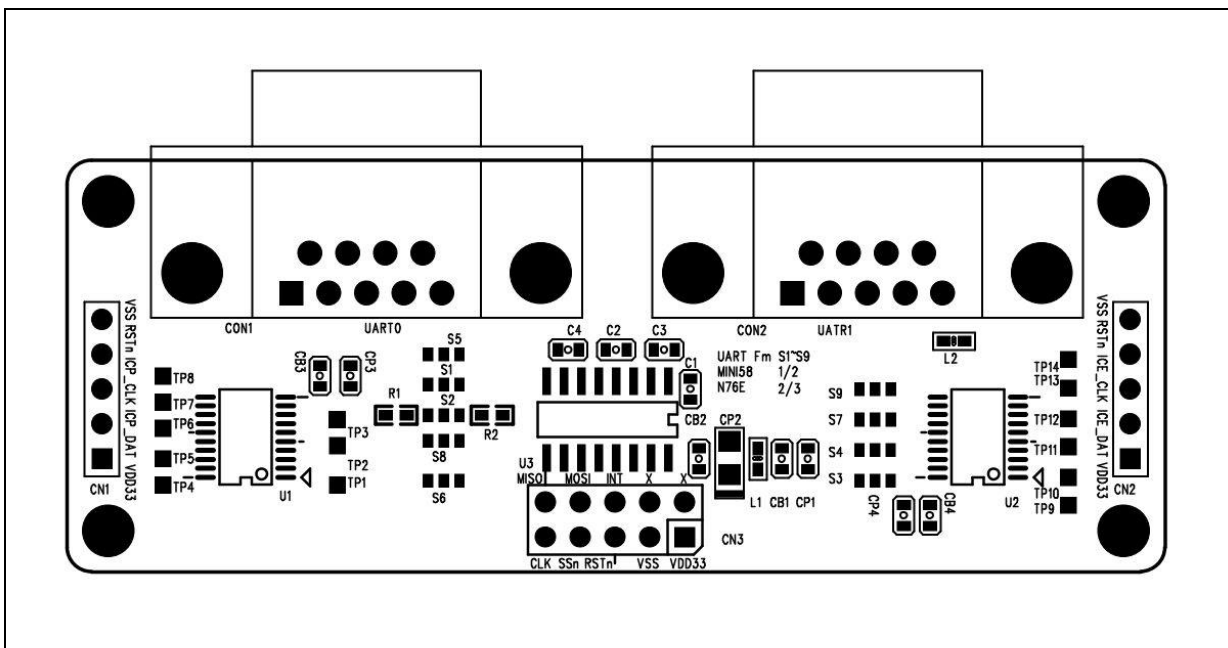

Figure 2-10 NuDesign-SPI2UART(B) PCB Placement (Front View)
Figure 2-10 shows the front view of NuDesign-SPI2UART(B) PCB placement.